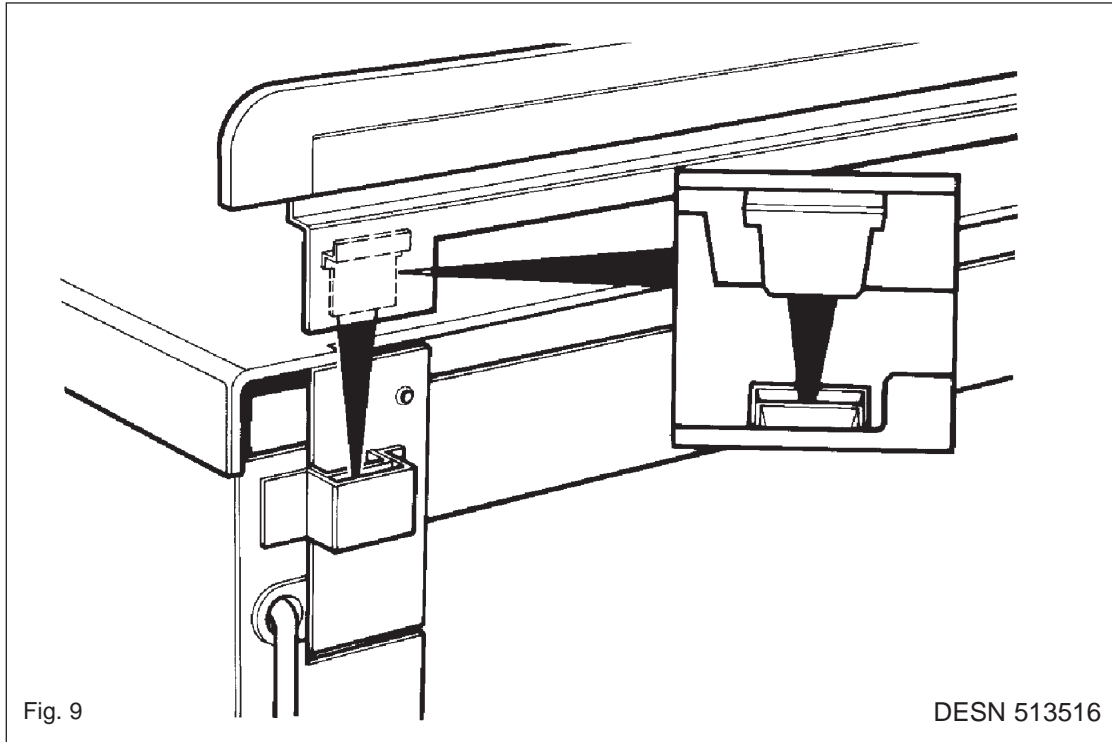

Fig. 9
1. Locate tabs on rear of splashback assembly, into the brackets on the upper rear of the cooker. (See Fig. 9).